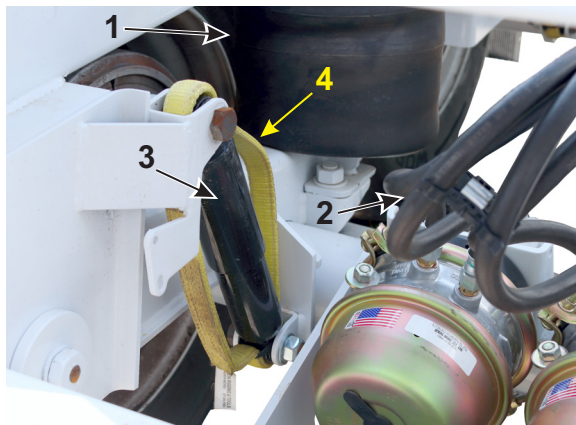

Figure 4-3 – Air Bag Suspension
- c. If the trailer is equipped with an air bag suspension, inspect the air bags (1, Figure 4-3), air lines (2, Figure 4-3), shock absorbers (3, Figure 4-3) and shock absorber safety straps (4, Figure 4-3) for signs of wear or damage. If any damage or wear is noted, the semitrailer should immediately be taken out of service.